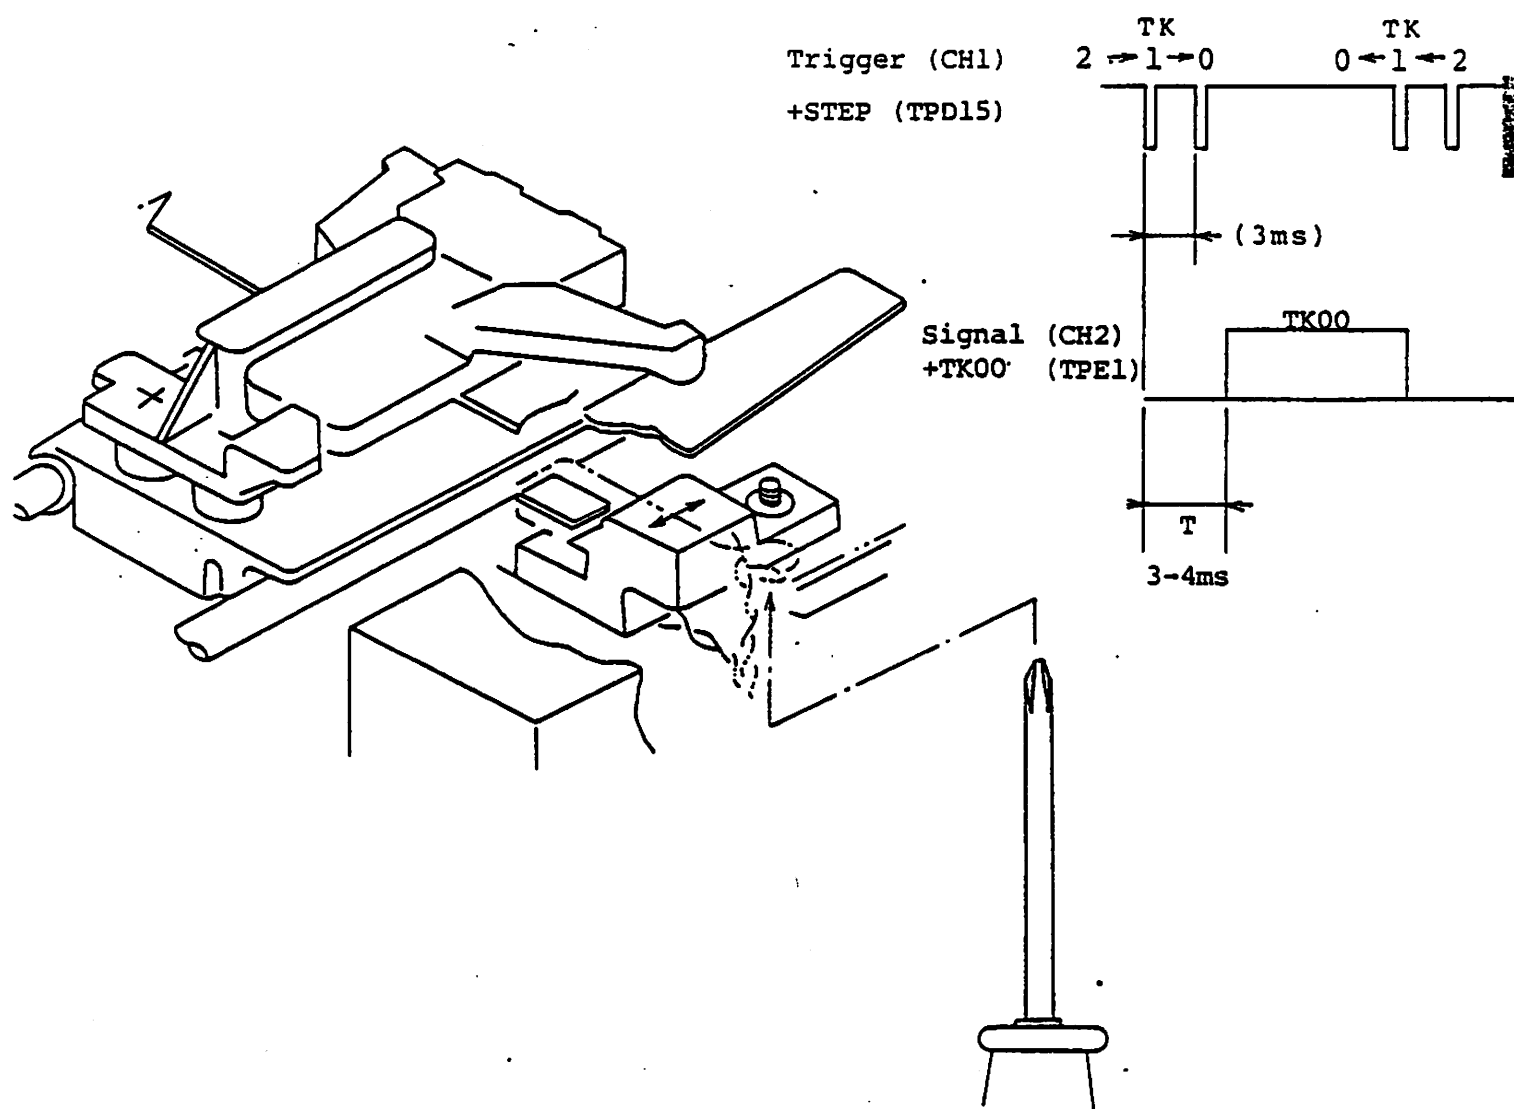

FIGURE 5
2)-3 Repeat seek between TK00 and 02 (see Figure 5).